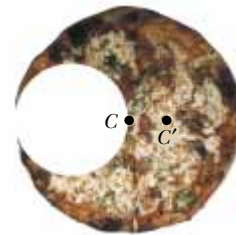

Figure P12.4
4. A circular pizza of radius R has a circular piece of radius $R/2$ removed from one side as shown in Figure P12.4. The center of gravity has moved from C to C' along the x axis. Show that the distance from C to C' is $R/6$. Assume the thickness and density of the pizza are uniform throughout.